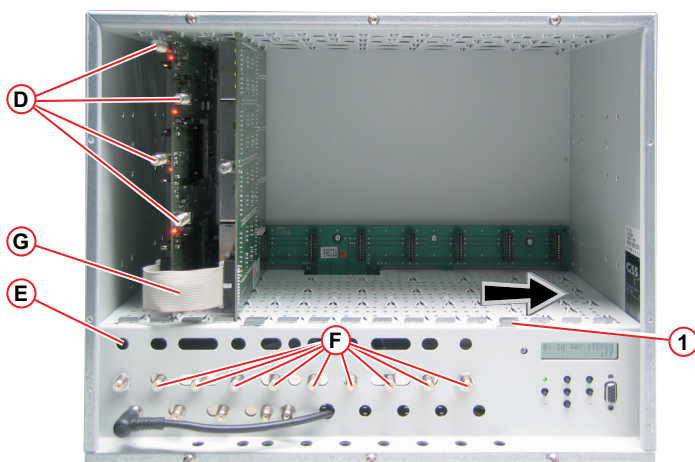

Fig.4
- Install the appropriate modulator module (fig. 4).
- > Figure 4 shows the slots 1 (digital module) and 2 (modulator module). The slot between them (without a contact strip on the board at the rear wall of the housing) is for an add-on module only.
- After installing the modules close the locking device (1) in direction of the arrow (fig. 4).
- Connect SAT-IF inputs (C) of the digital module (fig. 4) to the preinstalled F terminals in the rear wall of the head-end station via the cable inlets (E) using HF cables made on-site (length approximately 80 cm) or if applicable to one of the outputs of a retrofitted SAT-IF input distributor.
- Using the ribbon cable (D) to connect the AV output of the digital module to the AV input of the modulator module.